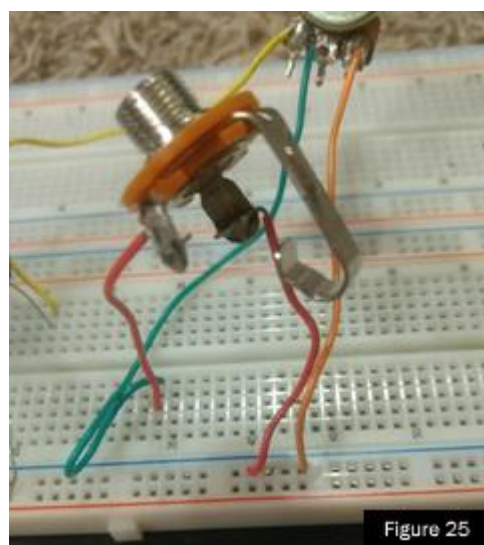

Figure 25
26. Connect the output jack to the potentiometer as in figure 25.